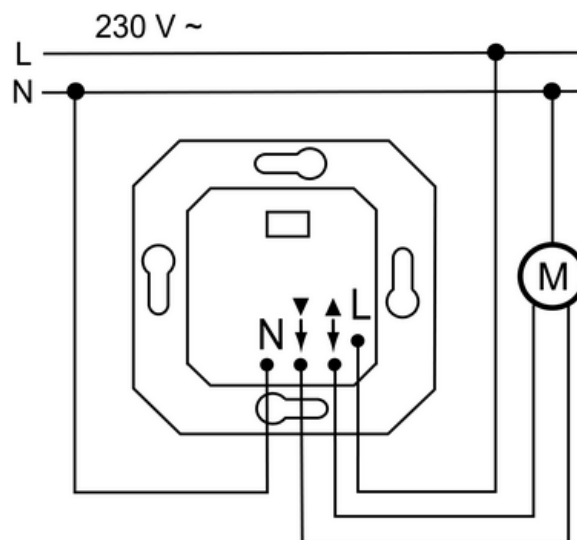

Figure 2: Connection of control
- Connect venetian blind control according to connection diagram (figure 2).